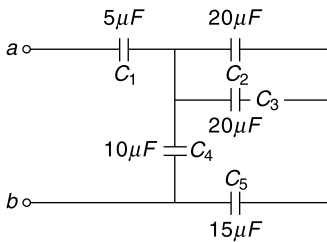

Fig. 2.27 Capacitor configuration of Ex. 2.12
2.12 Find the equivalent capacitance of the system of capacitances shown in Fig. 2.27.